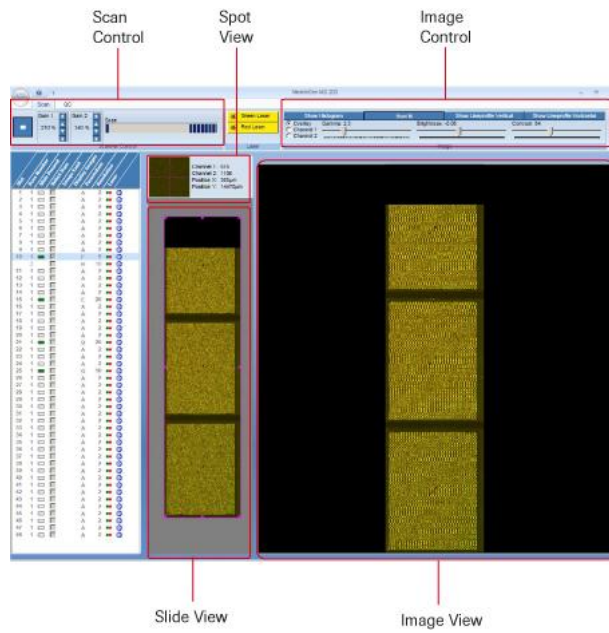

Figure 16: Example of a Run Time Window
1. Click the **Start/Stop Scan** button (▶) in the Scan Control (Figure 16).
3. Once scanning begins, the Parameter Control and Area Definition Control close. The Image View, Slide View, and Spot View open (Figure 16). The current task is identified in the progress bar.